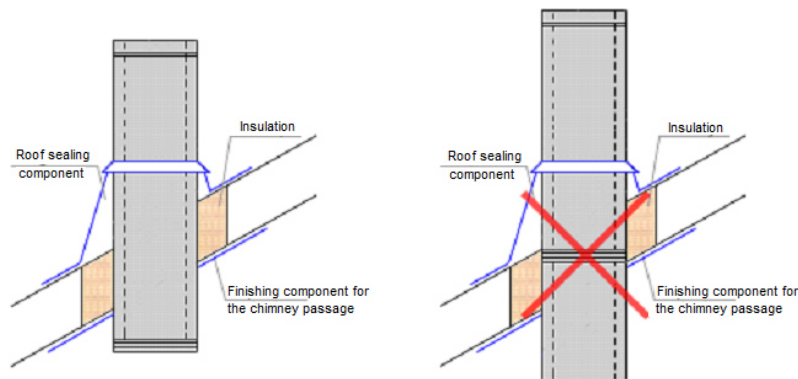

Fig.4. Mounting of the chimney system in the places of intersection with the building structure
- holes of the appropriate size must be made in the places of intersection of the chimney with the building structures (the ceiling, roof, wall) (the diameter of the chimney plus the double distance to the combustible materials). The spaces must be filled with the insulating non-combustible material, attributed to the class "A", with the operating temperature of 600 ° C and higher. **It is prohibited** to connect the elements of the chimney in the places of their intersection with the building structures (see Fig. 4). The distance from the outside of the chimney to the combustible materials must be not less than 130 mm;